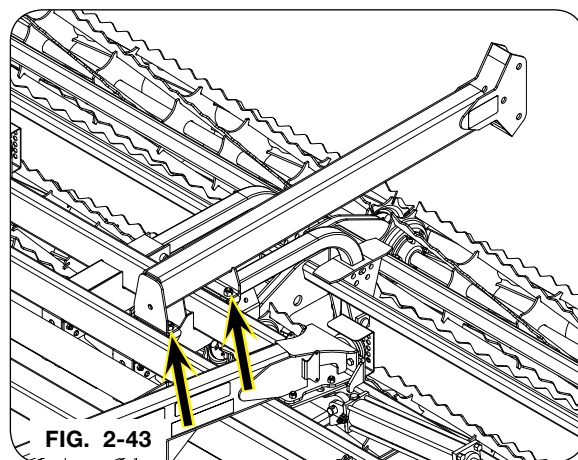
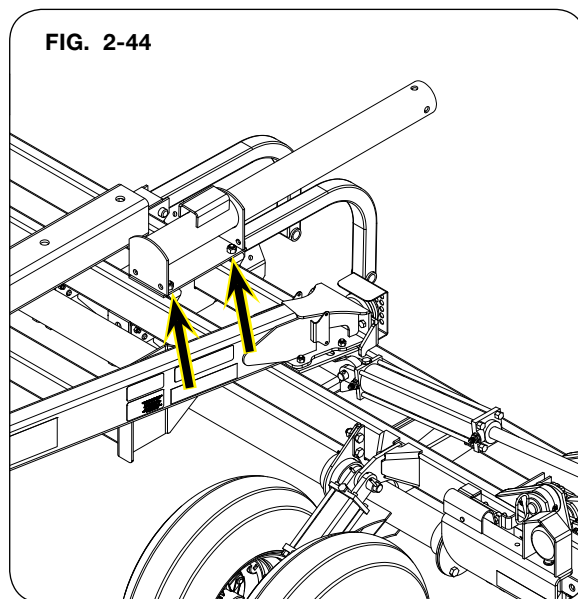

FIG. 2-43
FIG. 2-44
3. Assemble jack arm weldment to the center of the base frame as shown in FIG. 2-43 or FIG. 2-44. Retain into position with previously removed hardware.